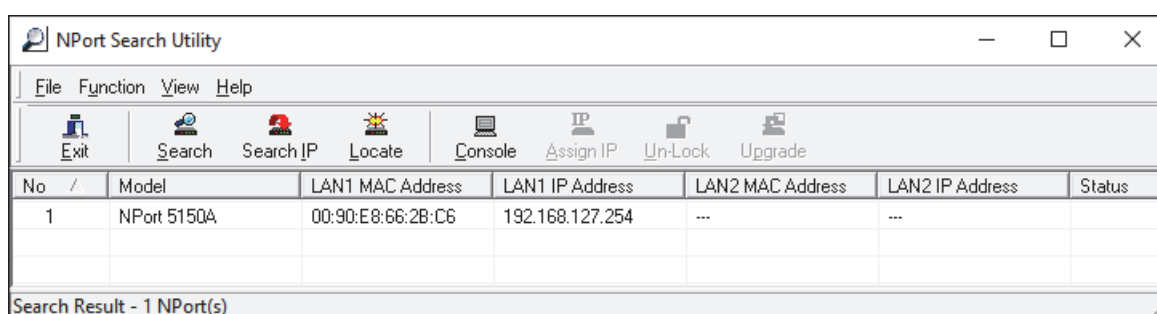

Figure 5.2 - The NPort Search Utility Detects a VRzero Module
5. After a few seconds, an entry for the connected VRzero module appears (see **Figure 5.2**).